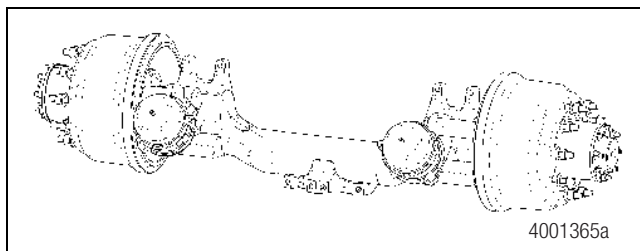

Figure 2.11
- Tubular deep-drop axles are designed for low floor applications. Figure 2.11.